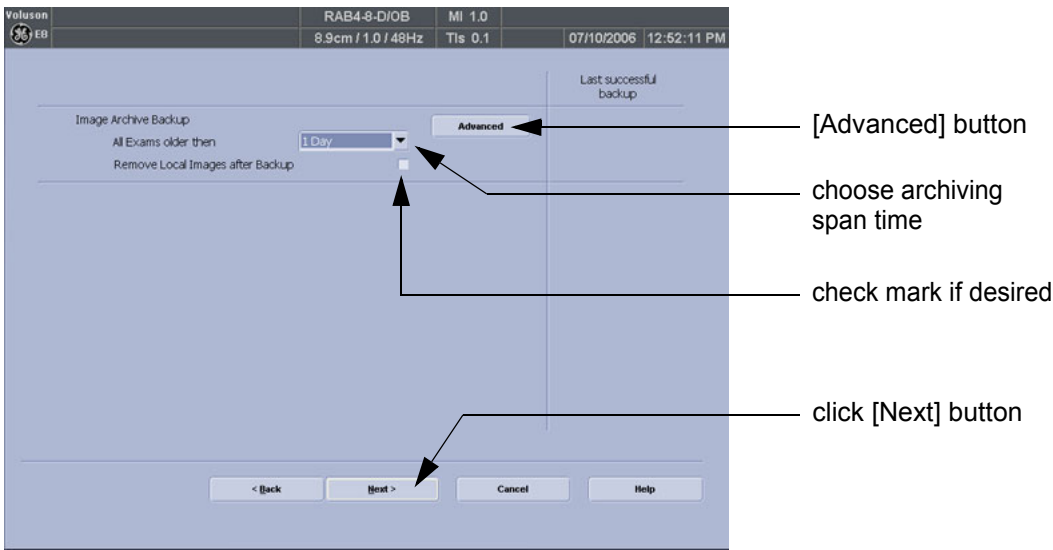

Figure 4-36 Image Archive Save - preparations
**NOTICE** If for example “All images older than” **1 Day** is chosen (see Figure 4-36 on page 4-42), images of the current day will not be archived! However, if you click the [Advanced] button you can put this right.